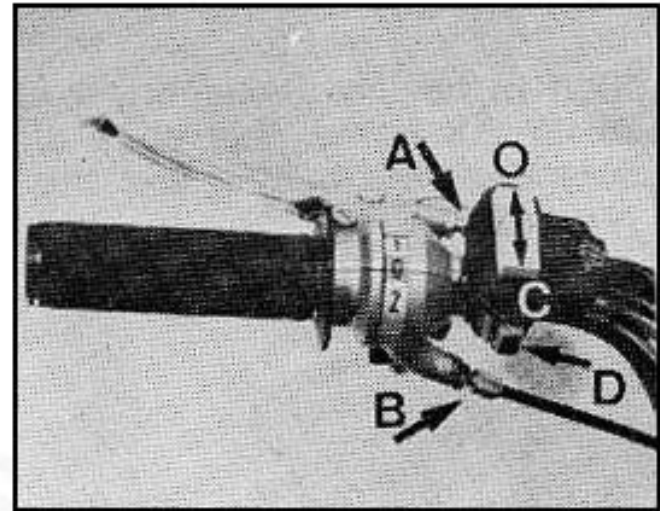
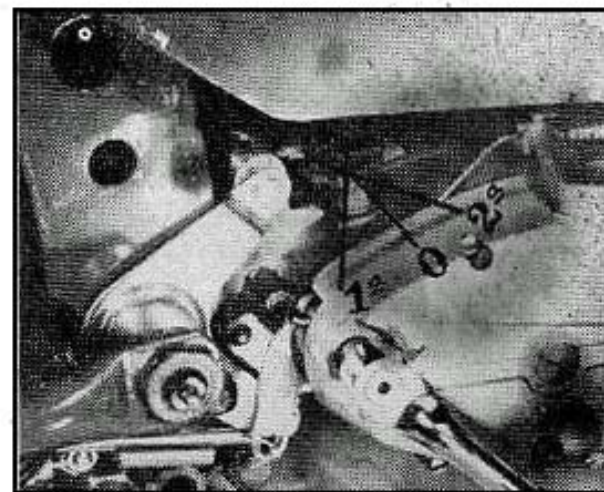

Fig. 4
Fig. 9
In all of the 2 speed CASAL vehicles, the gear selector is of the hand grip type, situated on the left hand side of the handlebars. (Fig. 4).
The clutch is brought into play by the action of the clutch lever situated on the left hand side of the handlebars. There should exist a play of 5 to 8mm and can be adjusted by A (Fig. 4). To bring the clutch into action, squeeze the clutch lever on the handlebars. For correction in the adjustment of the gears, use the adjustor B (Fig. 4).
The «O» mark shown in (Figs. 4) and (5), marks the position of neutral which occurs between 1st and 2nd gears.
LIGHT SWITCH (Fig. 4)
The horn may be sounded by pressing button «D» (Fig. 4).
The CASAL motor is equipped with constant mesh gears in the wedge formation. The gear selection is made with the help of a mobile shaft which causes 4 ball bearings mounted on the gear shaft, to engage the respective gear. The gear selector is brought into play by the lever (Fig. 9) which in turn is activated by a steel cable connected to the twist grip on the handlebars (Fig. 4).